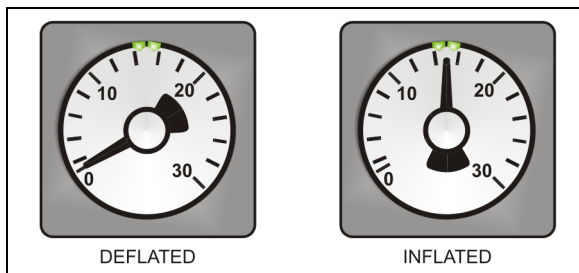

FIGURE 14: INFLATABLE SEAL PRESSURE GAGE
4. Finally, the inflatable seal can be re-inflated by turning the shut-off valve handle counterclockwise. Check the pressure gage on the inflatable seal regulator to see if the pressure increases to 15 psi \pm 5 psi (Figure 14). Needle should be pointing between the two small green marks on the dial.
7. Finally, the inflatable seal can be re-inflated by turning the shut-off valve handle counterclockwise. Check the pressure gage on the inflatable seal regulator to see if the pressure is increasing to 15 psi \pm 5 psi (Figure 14).